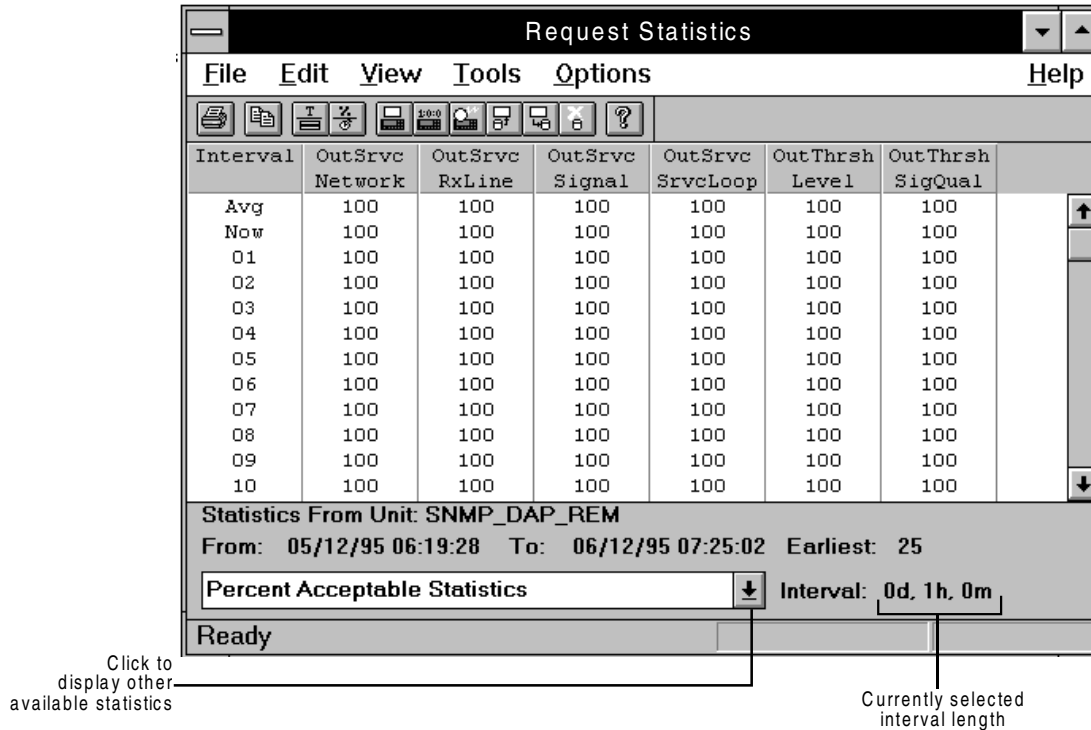

Figure 5-5. Statistics Display – Text View
- If the Graphical option is disabled, a text display of the statistics appears. (See Figure 5-5.)